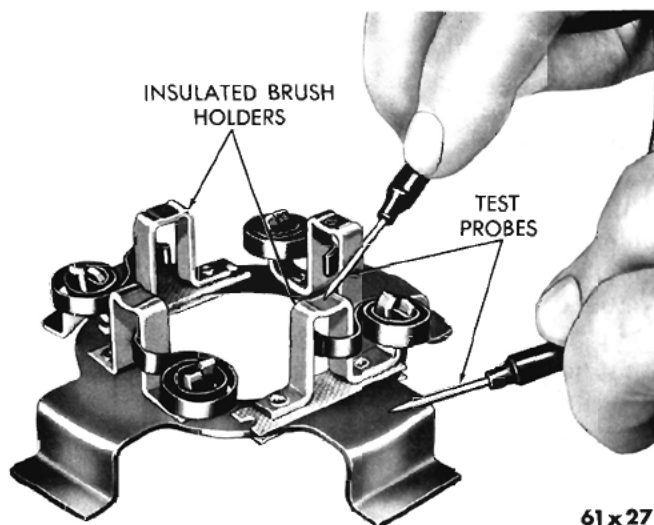

Fig. 12—Testing Insulated Brush Holder for a Ground
(7) Touch each of the brush holders with one test probe, while holding the other test probe against the brush ring. Two brush holders that are 180 degrees apart should cause test lamp to light as they are intentionally grounded. The other two brush holders (Fig. 12) should not cause lamp to light when tested as they are insulated. If the insulated brush holders cause lamp to light when tested, it indicates that the brush holders on the brush ring are grounded. Replace the brush ring assembly if the brush holders are grounded.